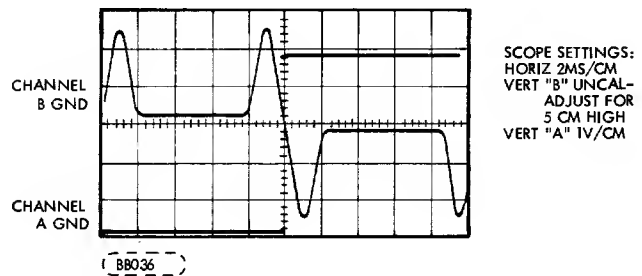
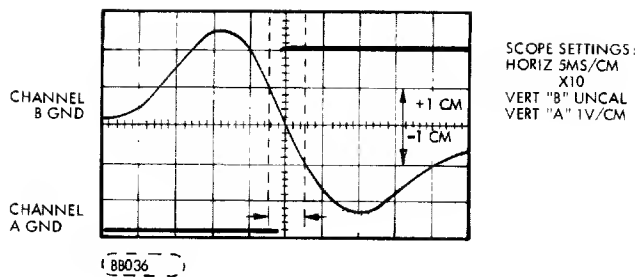

FIGURE 6-18A. EOT WAVEFORMS
FIGURE 6-18c. EOT WAVEFORMS
NOTE: Horizontal sweep time of Figure 6-18a and 6-18b depends upon switch settings on the I/O board.
14. Adjust oscilloscope until waveform looks similar to Figure 6-18a or 6-18b. Place crossover of signals A and B in middle of screen and place horizontal sweep time to 10X. Waveform should be similar to Figure 6-18c depending on sweep time.
15. If waveform is not within limits shown in Figure 6-18c, slightly loosen two socket head screws (Phillips on early units) on EOT Detector (Figure 6-3). Place screw driver in slot and adjust detector horizontally to limits shown in Figure 6-18c.